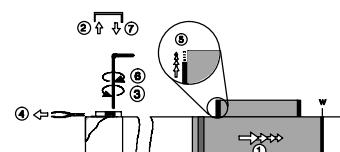

Fig. 56
2. Remove the cover cap (if fitted) from the opposite side (see Fig. 56).